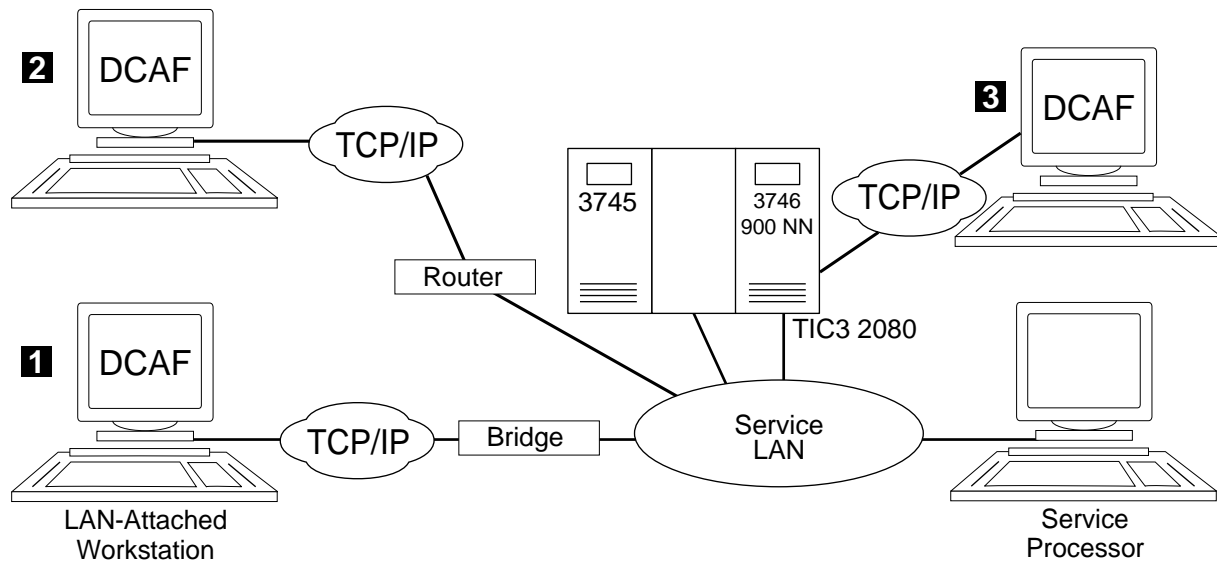

Figure 11-1. Token-Ring LAN (TCP/IP Type) Configuration
Step 6. If you have a link type **3** (Figure 11-1 on page 11-1), enter the TIC3 2080 address in the **SP default router** and click **Next** and **Close**. Otherwise, click **Next** and **Close**.